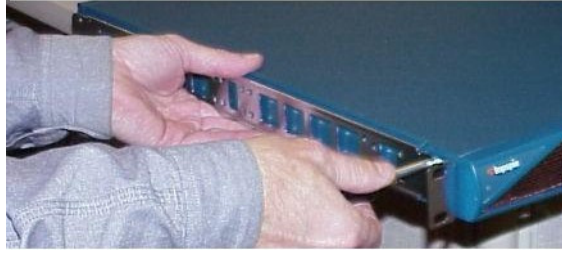

Figure 2-3: Attaching One Rail to Switch Chassis
2. Attach the bracket that has the screw holes to the side of the chassis with the flange facing away from the switch, as shown in Figure 2-3.